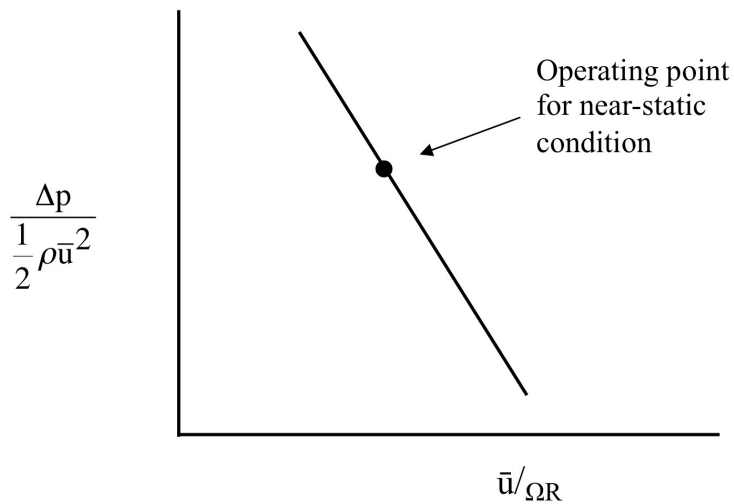

Figure 3. Turbomachinery (compressor) pressure rise versus flow characteristic curve
e) Suppose the turbomachinery has a pressure rise versus flow coefficient that looks as Figure 3, below. The operating point for the near static condition is indicated. Where would the high vehicle velocity operating point described in parts (c) and (d) be in relation to this?